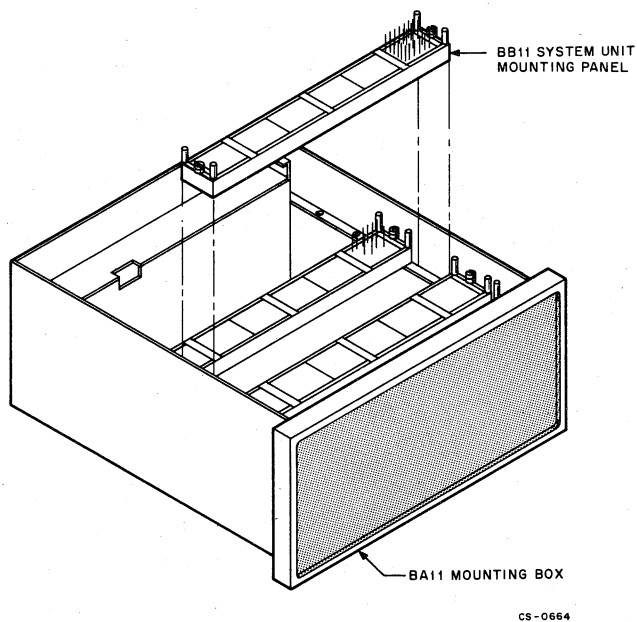

Figure 3-1 Installation of DECKit11-M System Unit Mounting Panel
1. Mount the DECKit (with modules previously installed) into the vacant system unit location and secure with the two special knurled screws supplied with the kit (Figure 3-1).